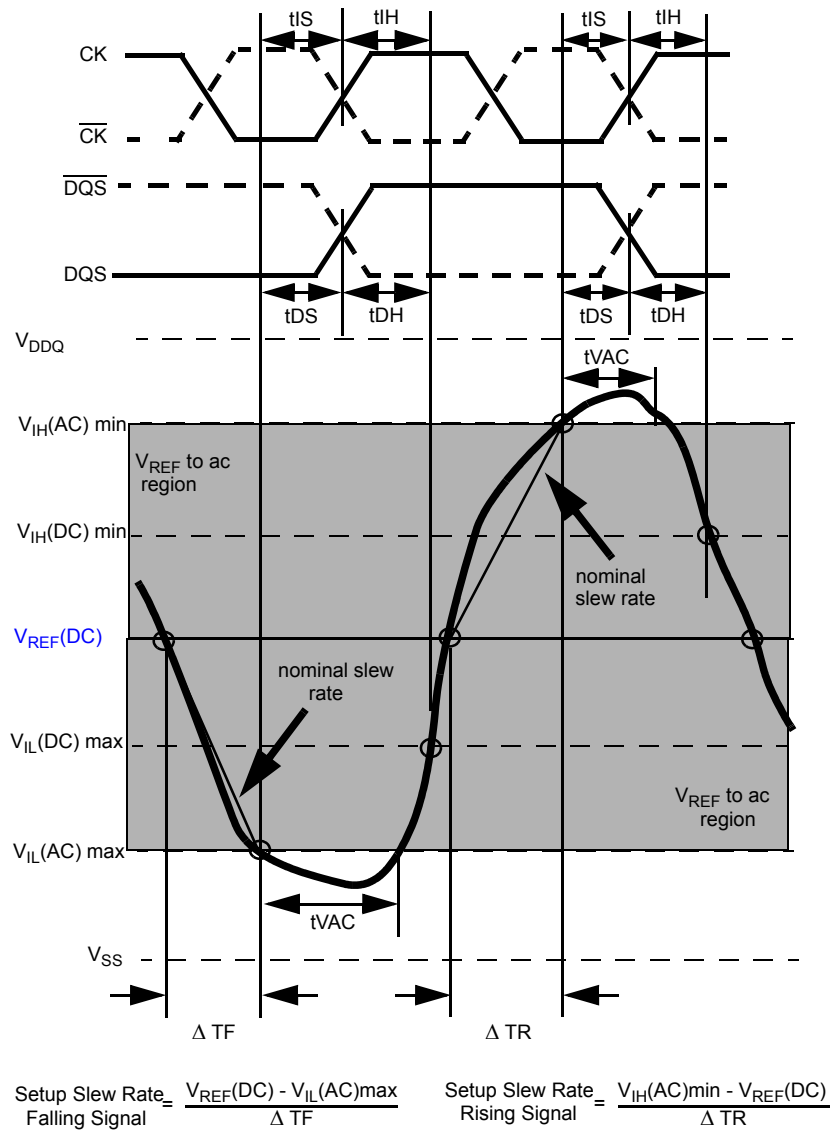
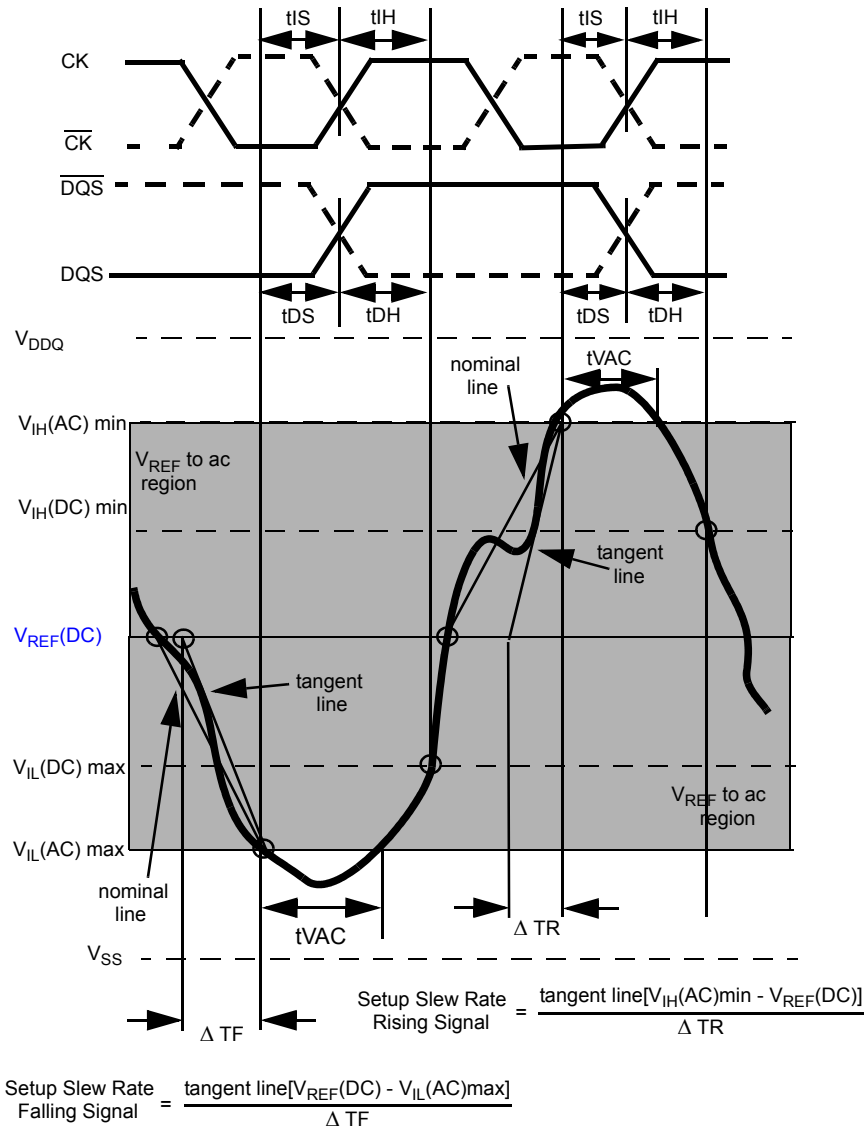

Figure 25. Illustration of nominal slew rate and t_{VAC} for setup time t_{DS} (for DQ with respect to strobe) and t_{IS} (for ADD/CMD with respect to clock).
Figure 27. Illustration of tangent line for setup time t_{DS} (for DQ with respect to strobe) and t_S (for ADD/CMD with respect to clock)
Setup (tDS) nominal slew rate for a rising signal is defined as the slew rate between the last crossing of VREF(DC) and the first crossing of VIH(AC)min. Setup (tDS) nominal slew rate for a falling signal is defined as the slew rate between the last crossing of VREF(DC) and the first crossing of VIL(AC)max (see Figure 25). If the actual signal is always earlier than the nominal slew rate line between shaded 'VREF(DC) to ac region', use nominal slew rate for derating value. If the actual signal is later than the nominal slew rate line anywhere between shaded 'VREF(DC) to ac region', the slew rate of a tangent line to the actual signal from the ac level to dc level is used for derating value (see Figure 27).